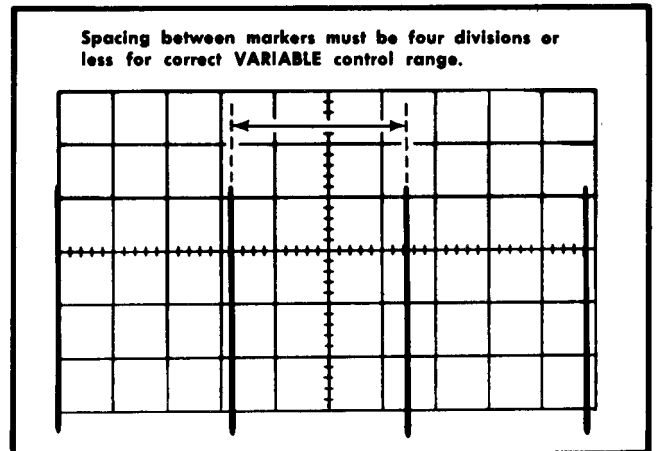

Fig. 5-23. Typical CRT display when checking A and B VARIABLE control range.
- f. CHECK-CRT display for four-divisions maximum spacing between markers (indicates adequate range for continuously variable sweep rate between the calibrated steps; see Fig. 5-23). UNCAL A OR B light must be on when A VARIABLE control is not in CAL position.
- d. CHECK-CRT display for four-division maximum spacing between markers (indicates adequate range for continuously variable sweep rate between the calibrated steps; see Fig. 5-23).